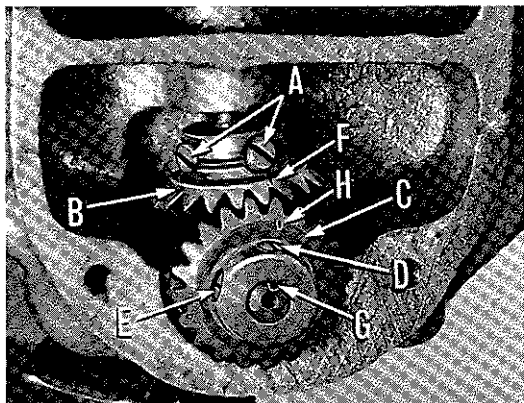
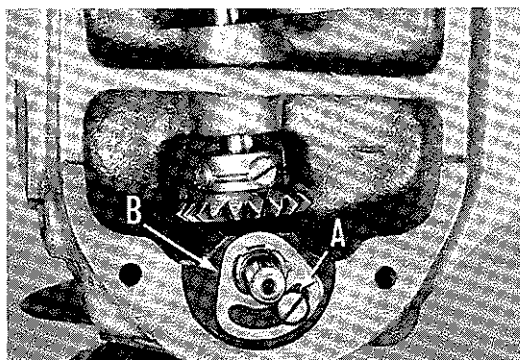

Fig. 5
Fig. 6
Turn the handwheel in operating direction until the needle has reached the forward end of its travel and returned 3/32 inch. At this position, the point of the hook should be over the center of the needle. To obtain this adjustment, remove hook gear cover on the back of the head to expose the gears (Fig. 5). Loosen screws (A) in gear (B) and turn gear (C) in the required direction to position the point of the hook over the center of the needle. Re-tighten screws (A).
The point of the hook should be set as close to the needle as possible without striking it. To make this adjustment, loosen screws (D and E, Fig. 5) and remove gear (C), exposing hook bushing flange (B, Fig. 6). Loosen screw (A) and rotate the hook bushing flange (B) in the required direction to position the hook point as described above. If the hook bushing flange cannot be turned far enough to secure this setting, remove screw (A) and place it in the alternate hole in the casting to secure more adjustment. Re-tighten screw (A).
Turn handwheel in operating direction until timing mark (F, Fig. 5) on gear (B) appears over the hook shaft. Replace gear (C) so that spot screw (D) aligns with "V" groove (G) in hook shaft and turn screw down lightly. Turn gear (C) and hook shaft until timing line (H) on gear (C) aligns with timing line (F) on gear (B).